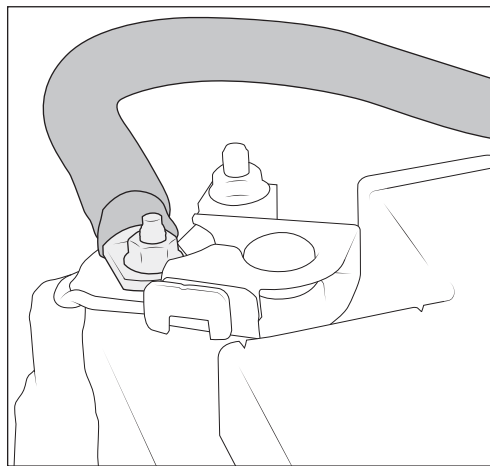

Figure 27
26. Attach negative line to the battery (fig. 27).